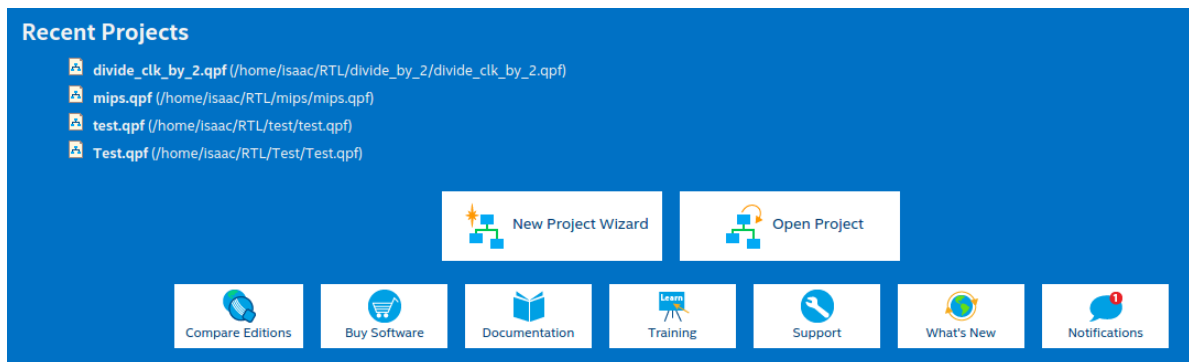

Figure 16: Project wizard.
2. Select **New Project Wizard** from the menu, as shown in Figure 16.